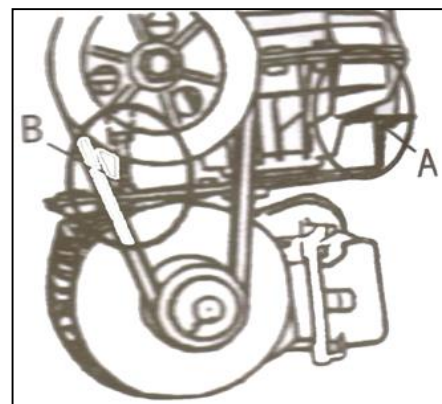

Fig. 28
- Periodically check and adjust the tension of the drive belt. Properly adjust by adjusting the nut in A and B to proper tension (Fig. 28).